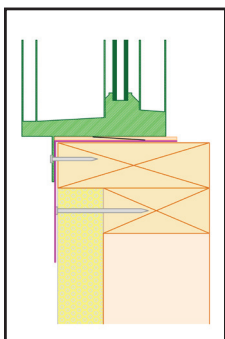
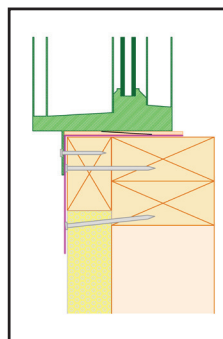

Figure 6. Rough opening "window buck"
Figure 7. Rough opening "picture frame"
- Where the FPIS material is greater than 1½" thick or less than 15 psi compressive strength, or where additional window or door support may be required (e.g., opening width > 6' or design wind load > 35 psf), it is recommended that a rough opening extension be applied to the rough opening. This can be done by use of 2x wood buck (see Figure 6) installed into the rough opening (which must be planned during rough framing) or by a "picture frame" furring (see Figure 7) installed around the perimeter of the rough opening of the same thickness as the FPIS for a flush installation (which can be installed at any time prior to window installation). In both cases, the window installation and flashing follow the same steps as indicated above. For additional installation guidance on this practice refer to: continuousinsulation.org/window-installation.